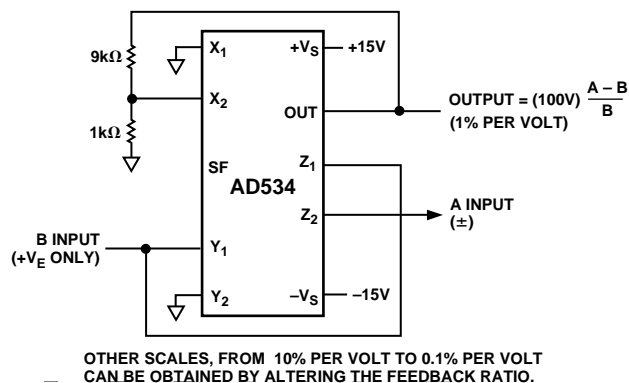

Figure 12. Percentage Computer
As with the multiplier connection, overall gain can be introduced by inserting a simple attenuator between the output and Y_2 terminal. This option, and the differential-ratio capability of the AD534 are utilized in the percentage-computer application shown in Figure 12. This configuration generates an output proportional to the percentage deviation of one variable (A) with respect to a reference variable (B), with a scale of one volt per percent.